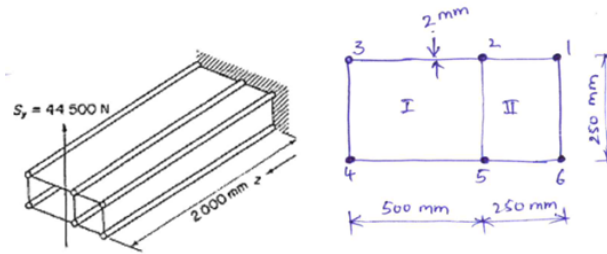

Figure 11
- (b) Calculate the deflection at the free end of the two-cell beam shown in Figure 11 allowing for both bending and shear effects. The booms carry all the direct stresses while the skin panels, of constant thickness throughout, are effective only in shear. $E = 69,000 \text{ N/mm}^2$, $G = 25,900 \text{ N/mm}^2$. Boom's $B_1 = B_3 = B_4 = B_6 = 650 \text{ mm}^2$. $B_2 = B_5 = 1300 \text{ mm}^2$. [7M]